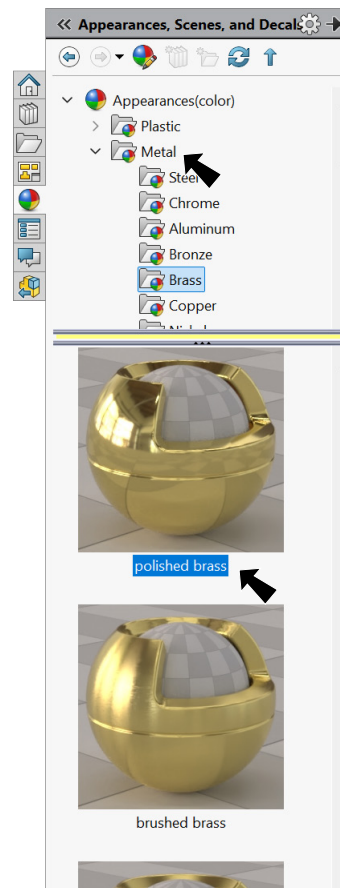

Fig. 8
Step 2. In the Appearances Task pane, expand **Metal**, click **Brass** and in the lower pane select **polished brass**, **Fig. 8**.